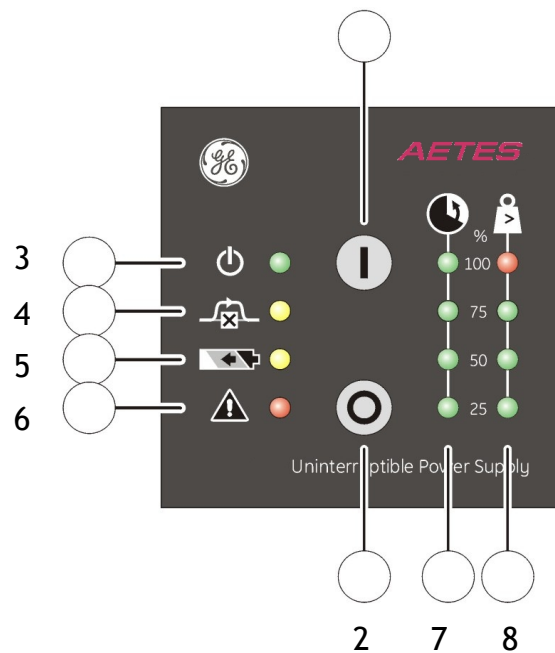

fig. 4.1: operating panel
press keypad 'I' (1, fig. 4.1) briefly; LED 'operation' (already slowly blinking) will at first blink faster and after a few seconds it will illuminate continuously, indicating that the unit has started up.
- 1 Press keypad '0' (2, fig. 4.1) for 1 second. If the UPS is switched off the output will always be absent for a few seconds to ensure that the connected equipment is able to reboot.